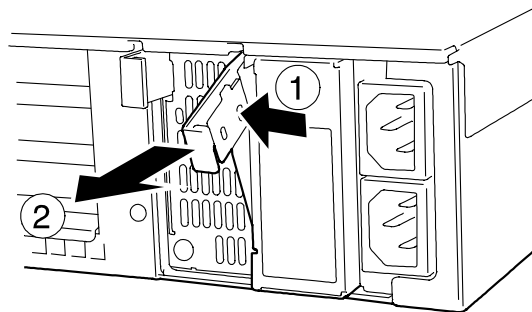

Figure 4-65. Removing the Power Supply Blank Cover
4. Squeeze and pull the handle of the blank cover. See Figure 4-65.